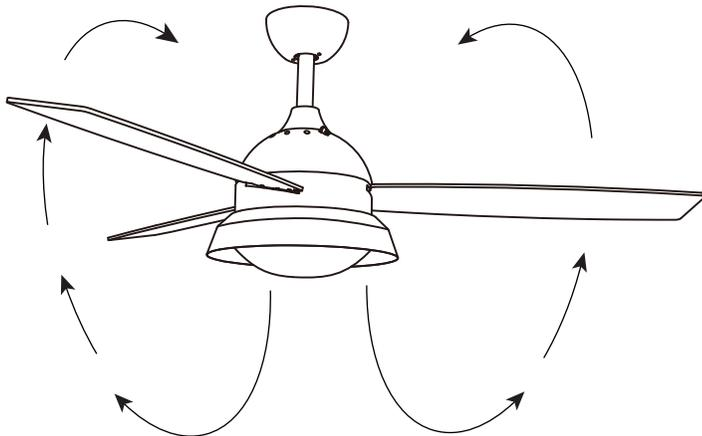

Figure 15
* Warm weather - (Forward) A downward air flow creates a cooling effect as shown in Figure 15. This allows you to set your air conditioner on a higher setting without affecting your comfort.